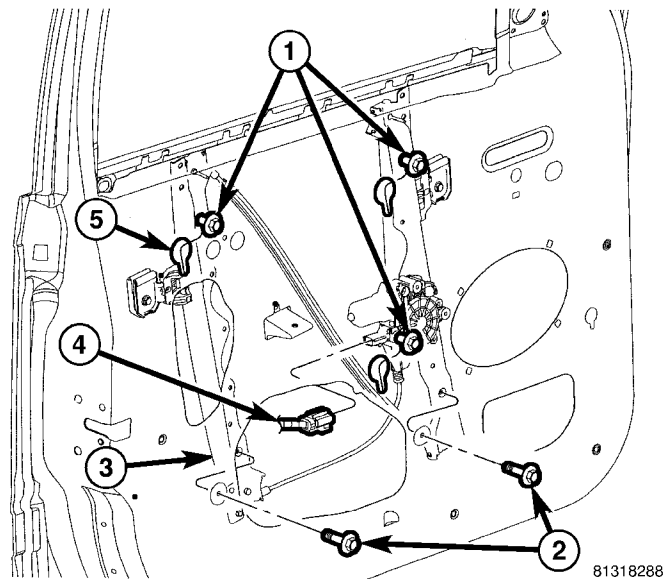

Fig. 3 WINDOW REGULATOR
- 6. Verify that the window regulator assembly is properly attached to the inner door panel. Tighten the five (5) attaching bolts to 8.8 Nm (75 in. lbs.) (Fig. 3).